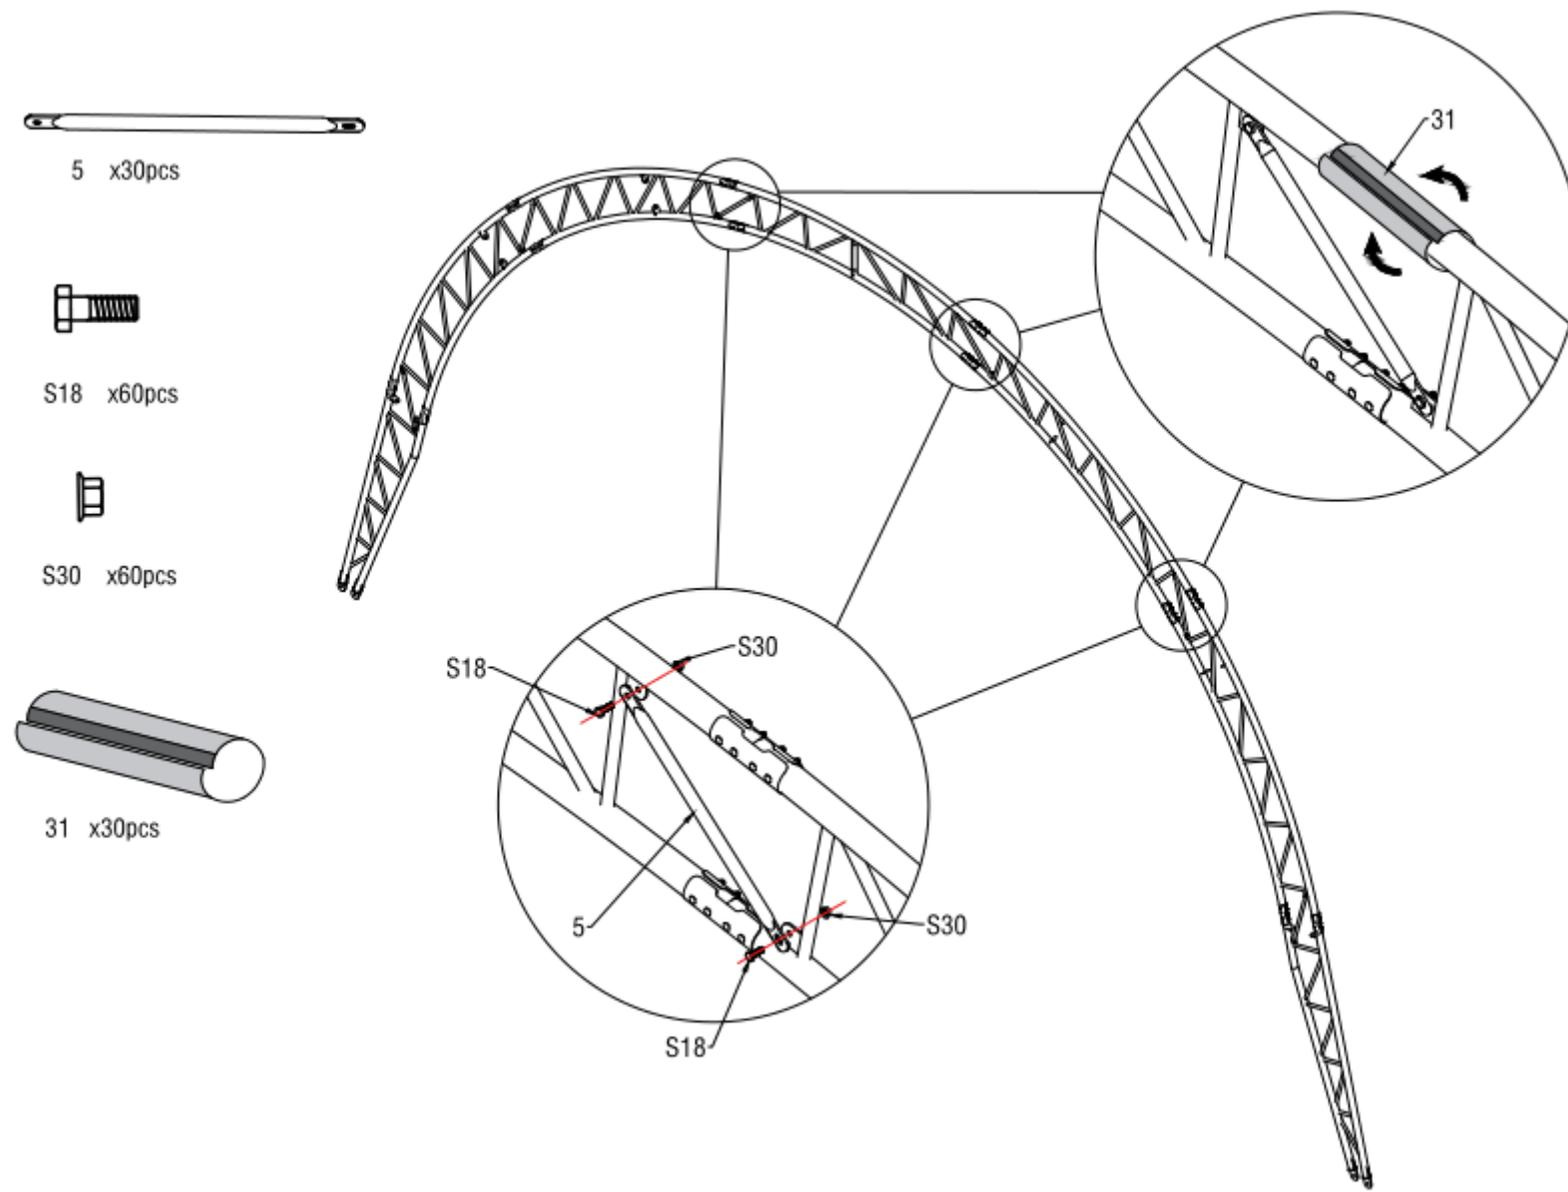

Figure 5
- As figure 5 shown, use the Supporting Webbing between the arch(No.5) to connect the Top roof tube (No.1) with hexagon bolt 10\*30mm (No. S18). Then put the PVC protective cover on the outer of connection of the arch to protect the roof cover from scratched by the outer joint. Assemble the rest of the other group double truss arch like this.